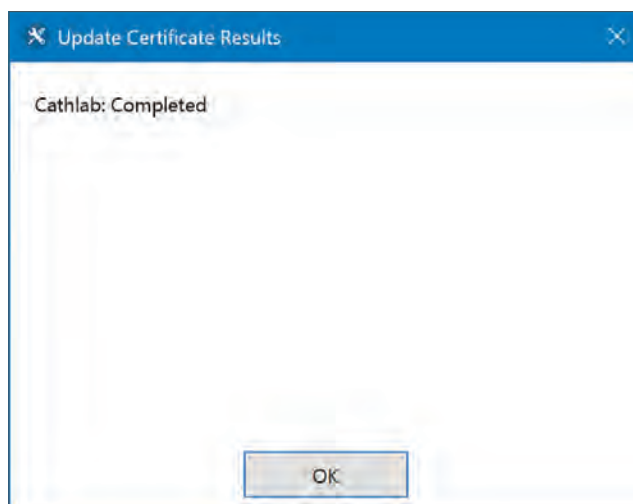

Figure 114: CCM – Update Certificate Results
- 7 Upon completion, select **OK** in the **Update Certificate Results** dialog box (Figure 114) to confirm the download.